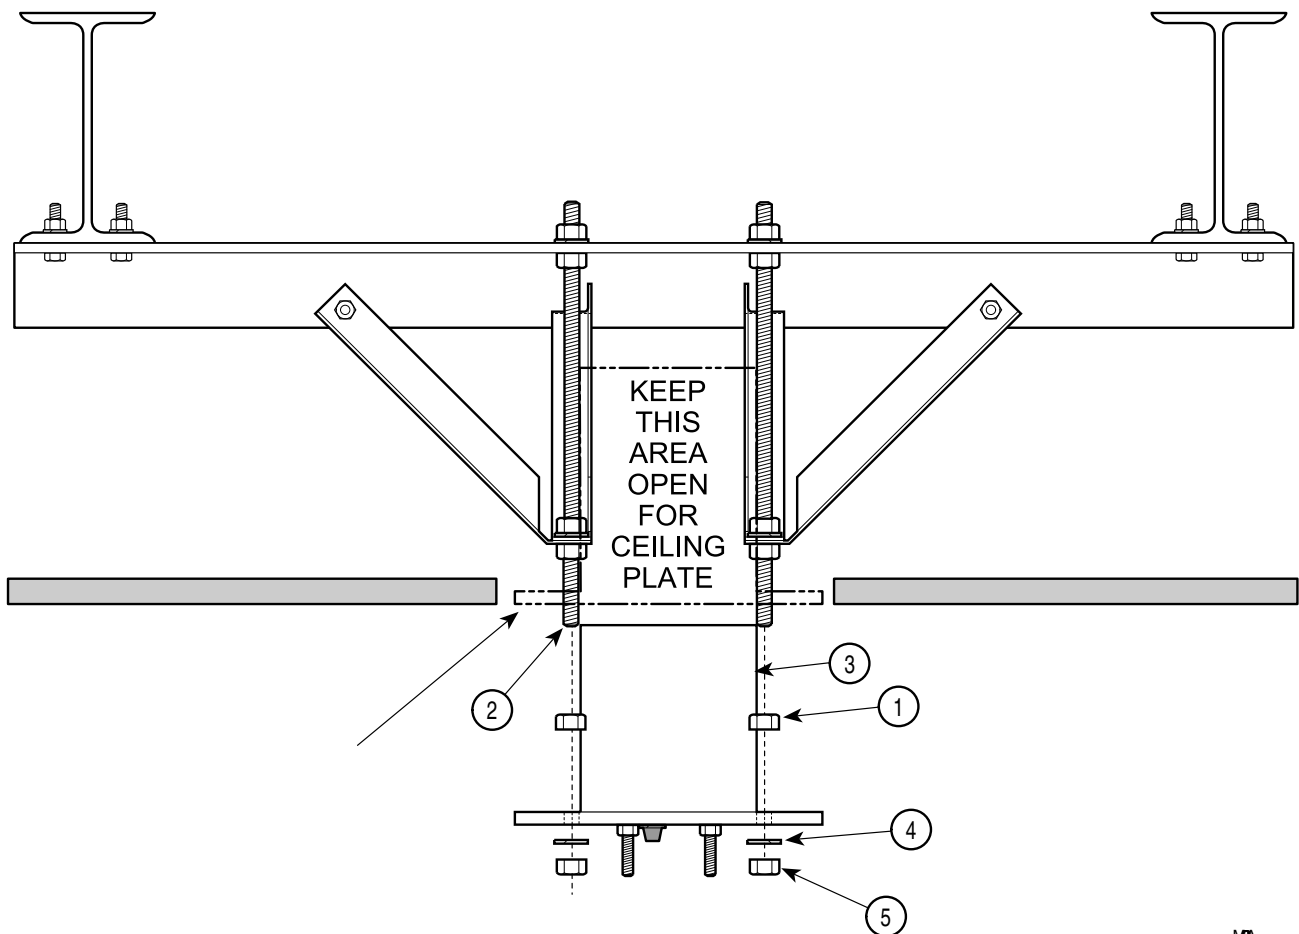

Figure 6. Suggested Ceiling Plate Assembly Installation
1. Install four 1/2" nuts (1, Figure 6) on four all-thread bolts (2) (not supplied) as far as possible.
2. Install ceiling plate assembly (3) on four all-thread bolts (2) and secure with four 1/2" lockwashers (4) and 1/2" nuts (5).